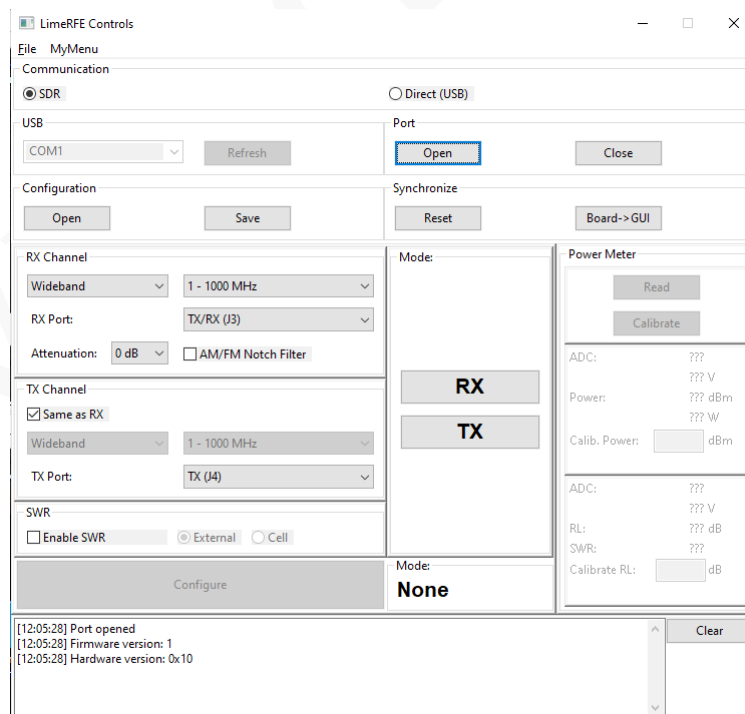

Figure 3: LimeRFE Controls window
- After LimeRFE module is opened, LimeRFE Controls window is displayed (Figure 3).
- After clicking Open Port button a confirmation message is displayed in *Message Display* panel (Figure 3).
In order to open the LimeRFE Control module, in LimeSuite main window choose Modules → LimeRFE. LimeRFE Controls window is shown in Figure 3. It consists of several panels: Communication, Configuration, Synchronize, RX Channel, TX Channel, SWR, Mode, and Message Display panel. Overview of this window will be given in the following.